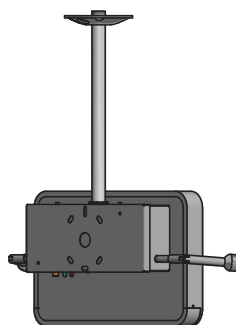

Figure 9
1. Loosen 2 set screws, one at each lower bottom side of frame, use 1/16" Allen wrench (figure 9).